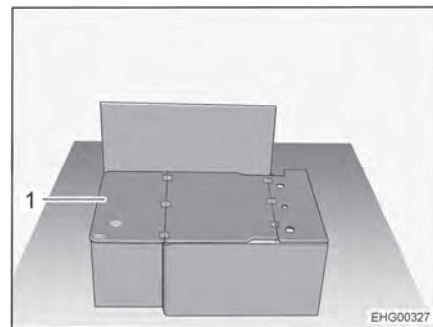

Fig. 20 Divan without cushions
- Fold the support board (Fig. 20,1) by 180° and set it down on the bench seat cover.